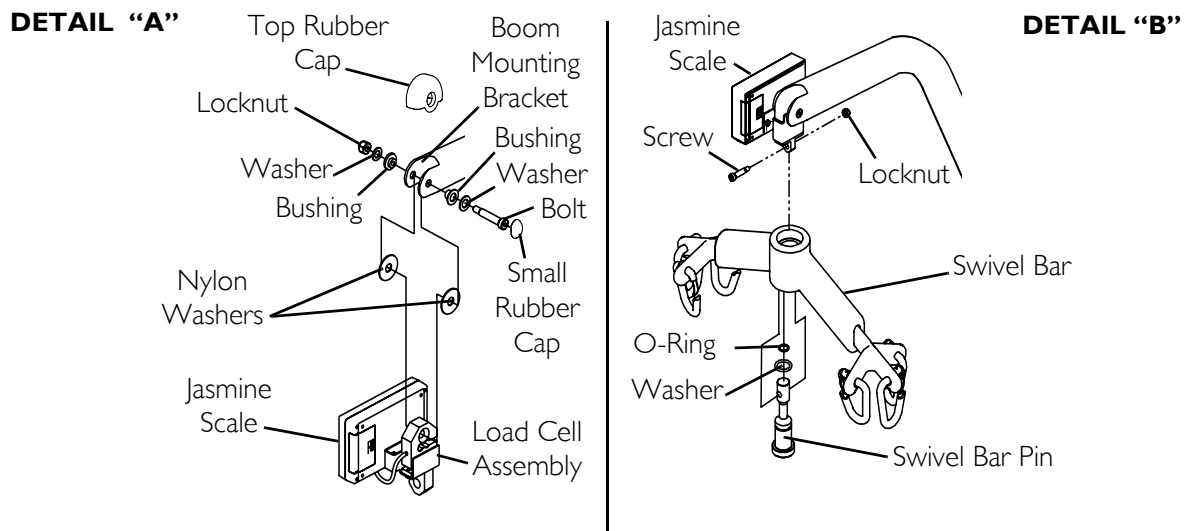

FIGURE 2 Installing the Jasmine Scale
NOTE: For this procedure, refer to FIGURE 2.
1. Position the load cell assembly of the Jasmine Scale into the boom mounting bracket (Detail "A" of FIGURE 2).
NOTE: Refer to Detail "A" of FIGURE 2 for washer and small rubber cap orientation.
3. Insert swivel bar pin with an o-ring and a washer through the swivel bar (Detail "B" of FIGURE 2).
4. Align the mounting holes in the swivel bar pin with the mounting holes in the load cell assembly (Detail "B" of FIGURE 2).
5. Secure swivel bar pin to the load cell assembly with a screw and locknut. Tighten securely (Detail "B" of FIGURE 2).